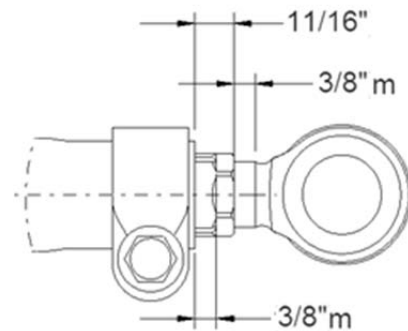

**FIGURE 11: NOTE THE HORIZONTAL ORIENTATION OF THE CLAMP BOLT AT THE SLEEVE END AND ON WHICH SIDE THE NUT MUST BE POSITIONED**
14. Once the proper length adjustment is done, tighten the front end ball joint clamp. To prevent interference between the ball joint clamp bolts with other components of the steering system, the clamp bolt must be positioned horizontally as shown on FIGURE 11. **Tighten the clamp nut to 118-133 lbf-ft.**